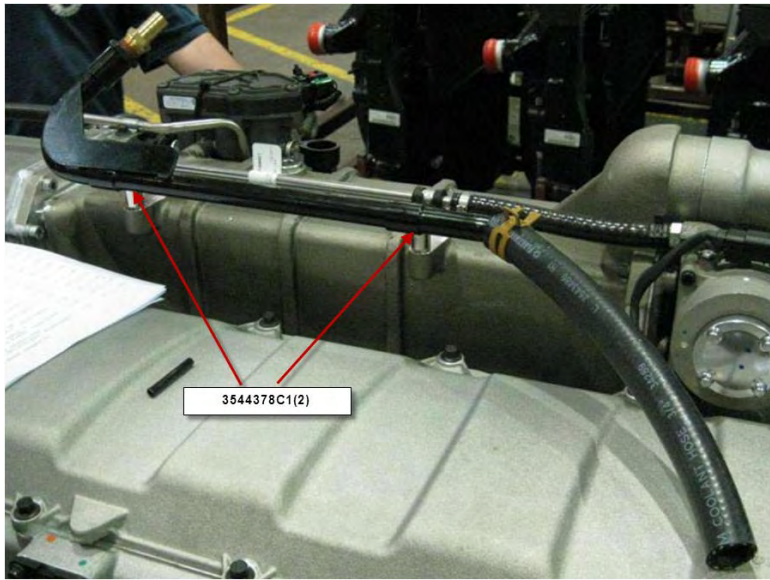

Figure 20 Attaching Supply Heater Pipe to Engine
7. Install step 6 assembly onto engine and fasten down using the 2 M6 hex flange nuts (See Figure 20, page 17) that were removed in step 2.